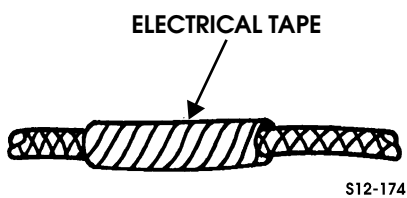

Figure 12-12: Electrical Tape
6. Center heat shrink tubing over splice clip (Figure 12-12).